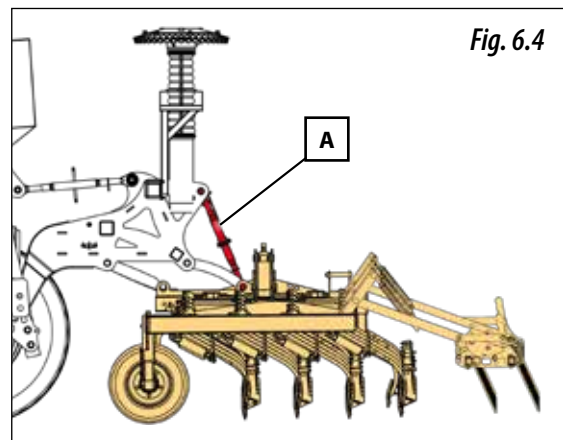

Fig. 6.4
The main tines determine the sowing depth (A, Fig. 6.4); both must be adjusted at the same depth. The tines are located in the rear part of the machine. They are adjusted by means of a pawl.
FOR FAST SOWING DEPTH ADJUSTMENT, ADJUST THE TINES (A, Fig. 6.4) IN **POSITION (0)**, THEN, THE TOW-BAR STOPS MUST BE ADJUSTED (Fig. 6.5).